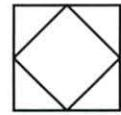

Figure 23. Instrument Tag
4. Determine the type of device indicated by the tag in figure 23.